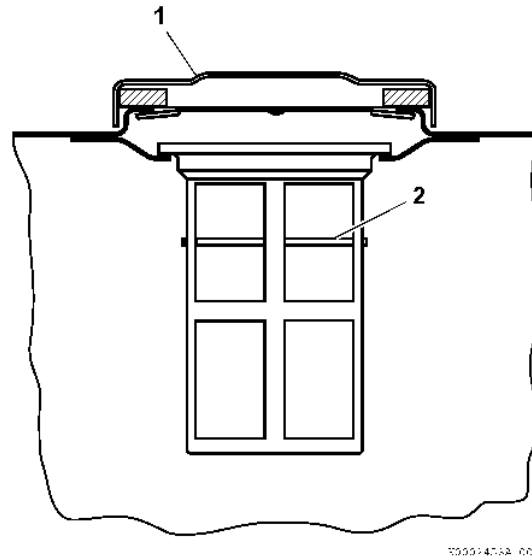

Figure 47
2. Remove the fuel cap (Figure 47, (1)) from the fuel tank.
3. Stop fueling when the fuel is at the same level as the red ring (Figure 47, (2)) at the bottom of the inlet fuel screen.